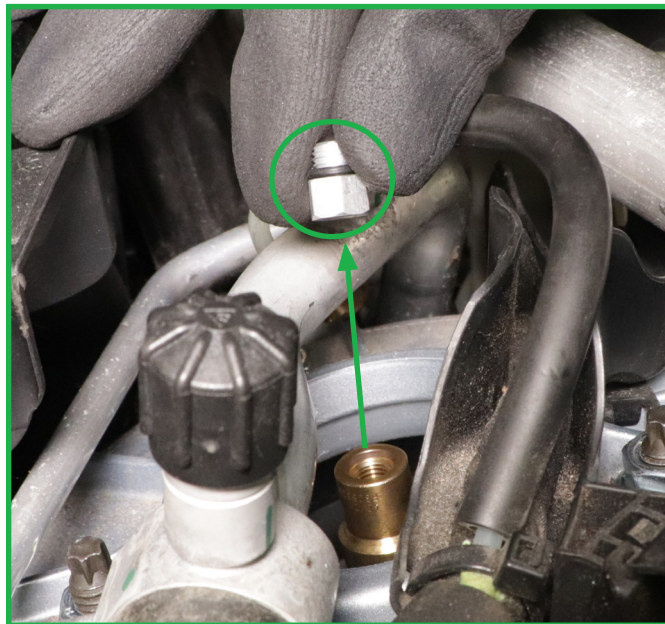

FIGURE 22
6. Remove the threaded shipping plug from the air valve on the strut. (Figure 22)